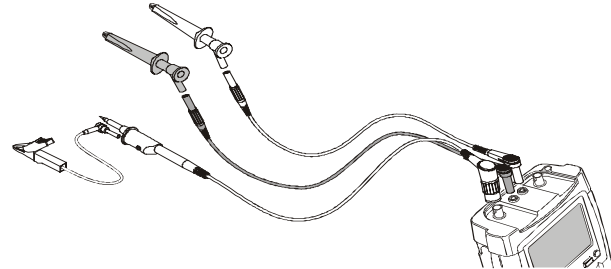

Figure 19. Scope Record Single Sweep
- 4 Apply an Uninterruptable Power Supply signal to the red BNC input A. Apply a start signal to the red and black external trigger banana inputs. (See Figure 19.)